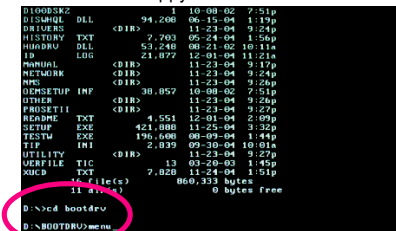

Figure 1
Step 1: Insert the prepared startup disk and motherboard driver disk (e.g. the Windows XP driver disk) in your system. Boot from the startup disk. Once at the A:\> prompt, change to your optical drive (example: D:\>). At the D:\> prompt, type the following two commands. Press <Enter> after each command (Figure 1):